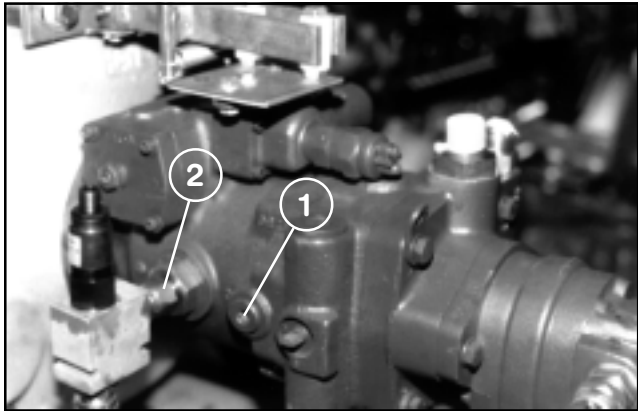

FIG. 42
TEST PORTS (FIG. 42)
1. Auxiliary Port is located on left side of piston pump and is used to measure the charge pressure of the transmission. (FIG. 42)
2. Loosen and remove the Relief Valve and Swivel Assembly from the Adapter Fitting in left side of Piston Pump. (FIG. 42)
3. Connect the Pressure Gauge at Adapter to check case drain pressure. (FIG. 42)